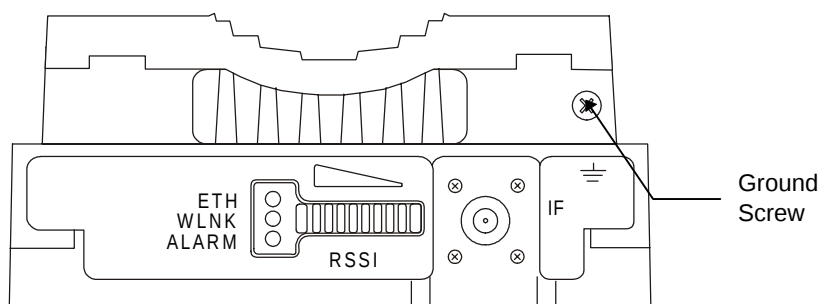

Figure 2-6. SU-RA/RE Outdoor Unit Bottom Panel
The Ground terminal (marked $\oplus$) and the IF cable connector (marked IF) are located on the bottom panel of the SU-RA/RE Outdoor unit, shown in Figure 2-6.
3. The RSSI bar display is located on the bottom panel of the Outdoor unit (refer to Figure 2-6). The 8 green RSSI LEDs are used for reading the Received Signal Strength Indication. The higher the number of green LEDs that are ON, the higher the level of the received signal. Rotate the antenna left and/or right until you reach the point of maximum RSSI reading. Make sure that at all times, the front of the antenna faces the general direction of the base station.
To verify correct operation, view the LED indicators located on the bottom panel of the Outdoor unit as shown in Figure 2-6 on page 10.